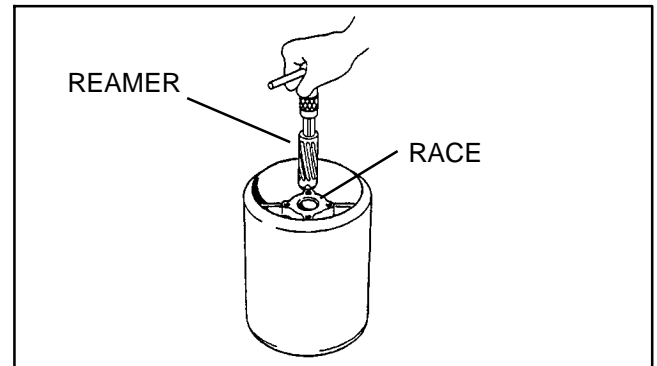

Figure 31
6. Size bushing with reamer (Fig. 31).